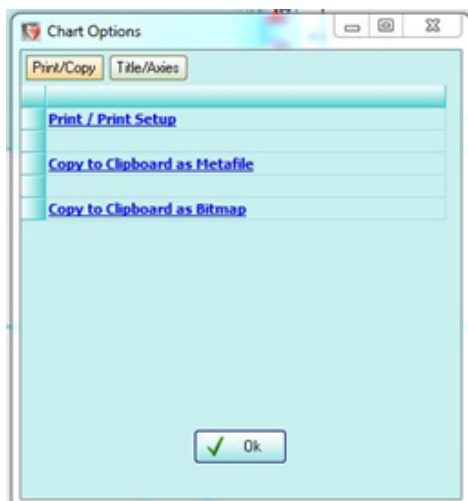

Figure 24. Print Setup Window
2. This brings up the 'Chart Options' Box. Select 'Print / Print Setup' (*Figure 24*)